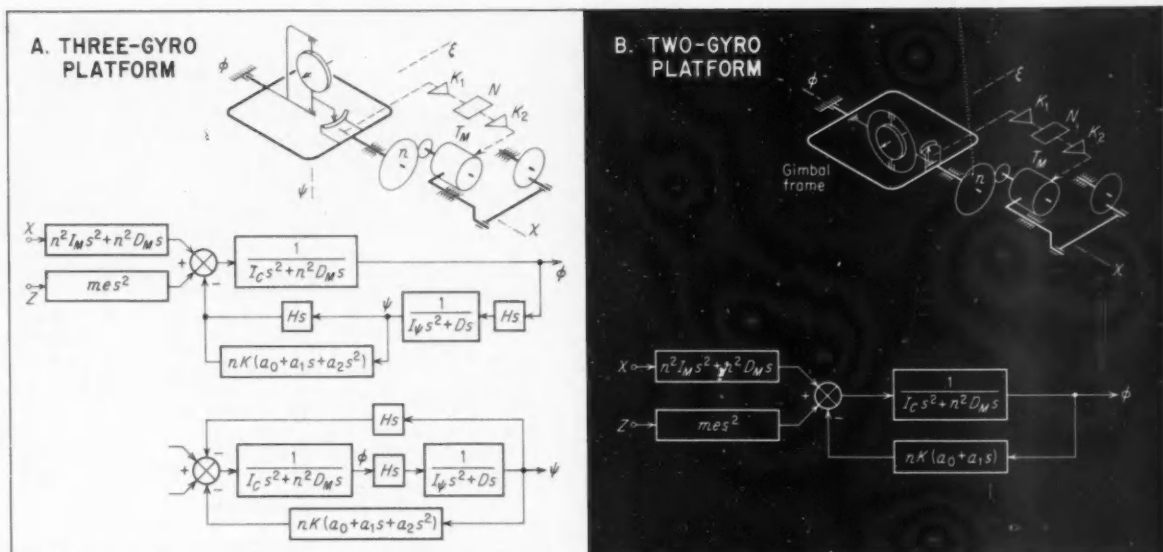

FIG. 1. Servo system and block diagram for a single axis of the two types of platforms.
Servo systems of the two platform types are shown in Figure 1. Table I defines the symbols used. Both systems consist of the same chain of components, viz., preamplifier (K_1); demodulator, lead-lag networks, and modulator (N); power amplifier (K_2); and torque motor (T_M) with its gear box. A highly sensitive inductive type of pickoff attached to the gimbal of each gyro generates the error signal.
Behavior of the servo systems will be described by means of their differential equations and transfer functions. These are set up on the basis of the schematic and block diagrams in Figure 1. They have been linearized, and the terms for coulomb friction, backlash, nonlinear amplifiers, etc., have been neglected. In a design analysis, however, these must be taken into account.